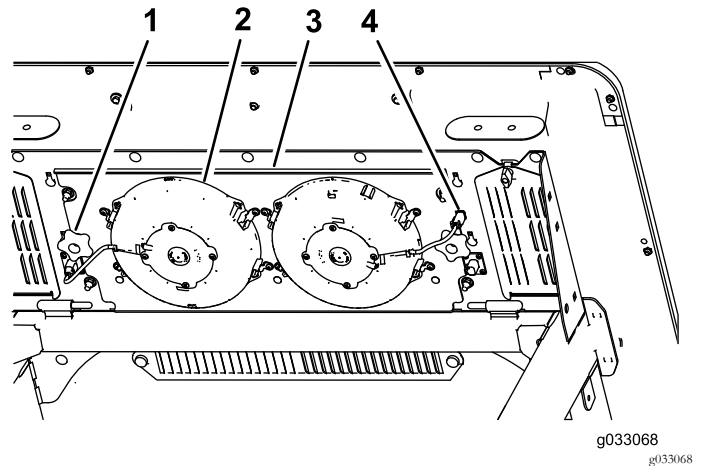

Figure 58
3. Disconnect the plug and cord for the fans from the outlet (Figure 58).
4. Remove the 2 knobs that secure the fan-panel assembly and fans to the underside of the cab top (Figure 58) and remove the assembly.